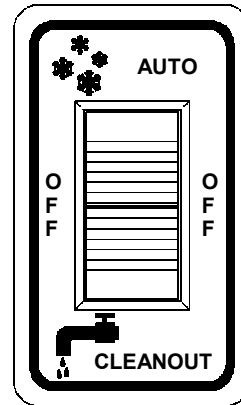
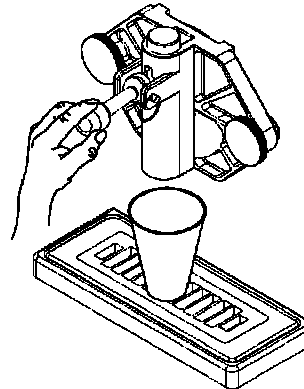

Fig. 4
Fig. 5
1. Set the control switch (Fig. 4) to the “CLEANOUT” position and dispense all product from the freezing cylinder by pulling downward on the spigot handle (Fig. 5) to empty the machine.
2. Set the control switch (Fig. 4) to the “OFF” (center) position. Close the spigot handle (Fig. 5) before proceeding to cleaning.